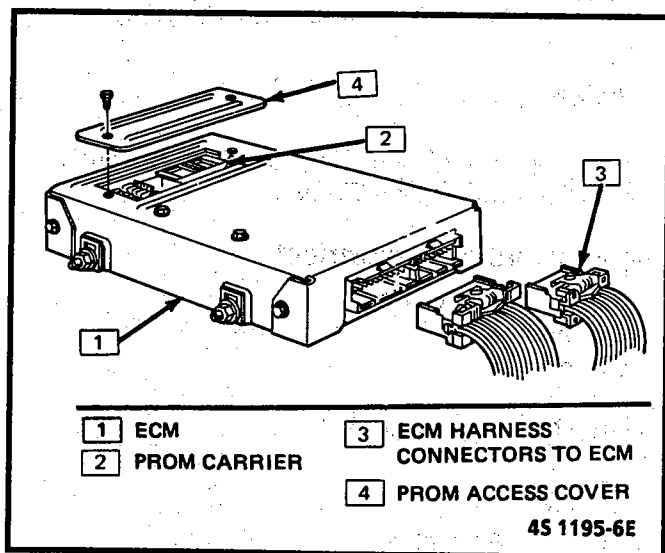

Figure C1-14 - ECM PROM Access Cover
4. ECM access cover (see Figure C1-14).